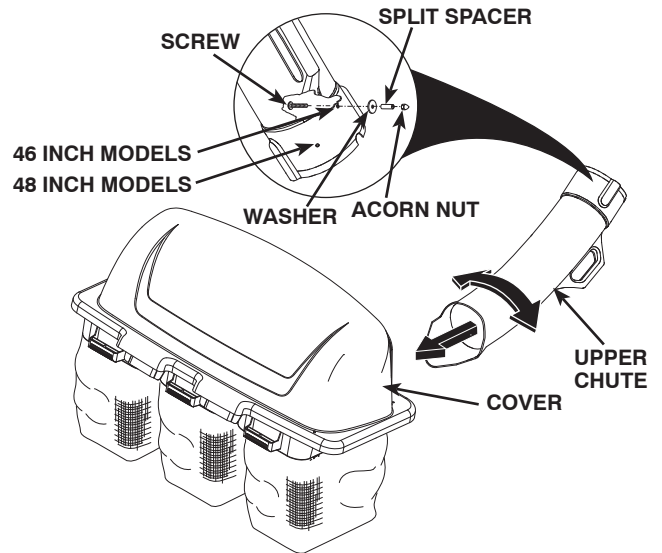

FIG. 5A
## 5 UPPER CHUTE (See Figs. 5A and 5B)
2. Assemble and install latch pin hardware into appropriate hole as shown in figure 5A.